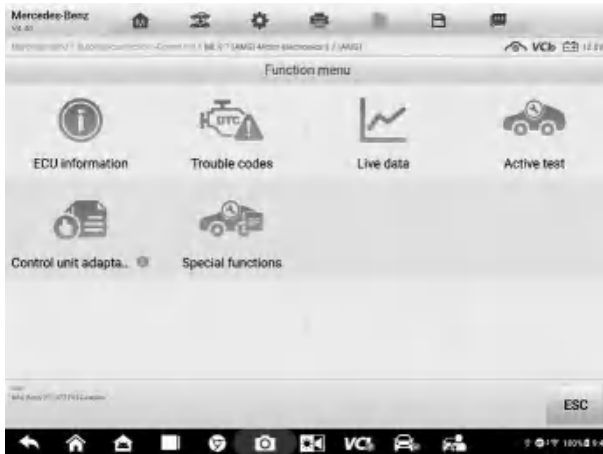

Figure 4-10 Function Menu Screen
- Column 4 — performs further diagnosis and other test activities. A Function Menu screen (Figure 4-10) shall display when you tap the  button.